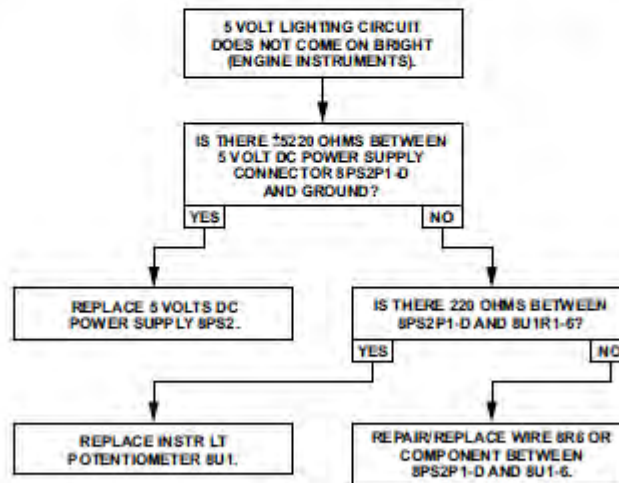

Figure 96-93: 5 VDC and 28 VDC Instrument/Control Panel Lighting Circuit – Trouble No. 4
- If the 5 VDC lights (engine instruments) do not come on bright, refer to Trouble No. 4 (Figure 96-93).